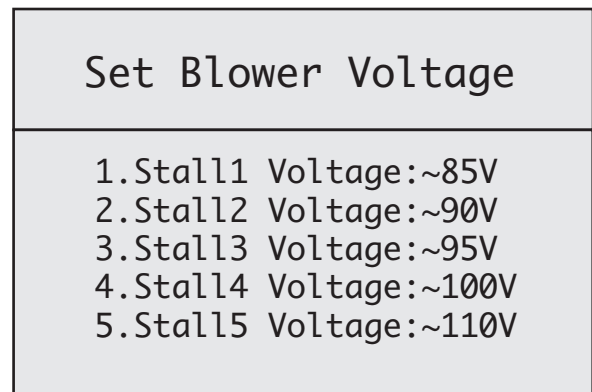

Figure 26
2. Using the **SCROLL DOWN** key, move down to option 4: "**SET BLOWER VOLTAGE**". Press **ENTER** again to move into the "**SET BLOWER VOLTAGE**" screen. **SEE FIGURE 26.**